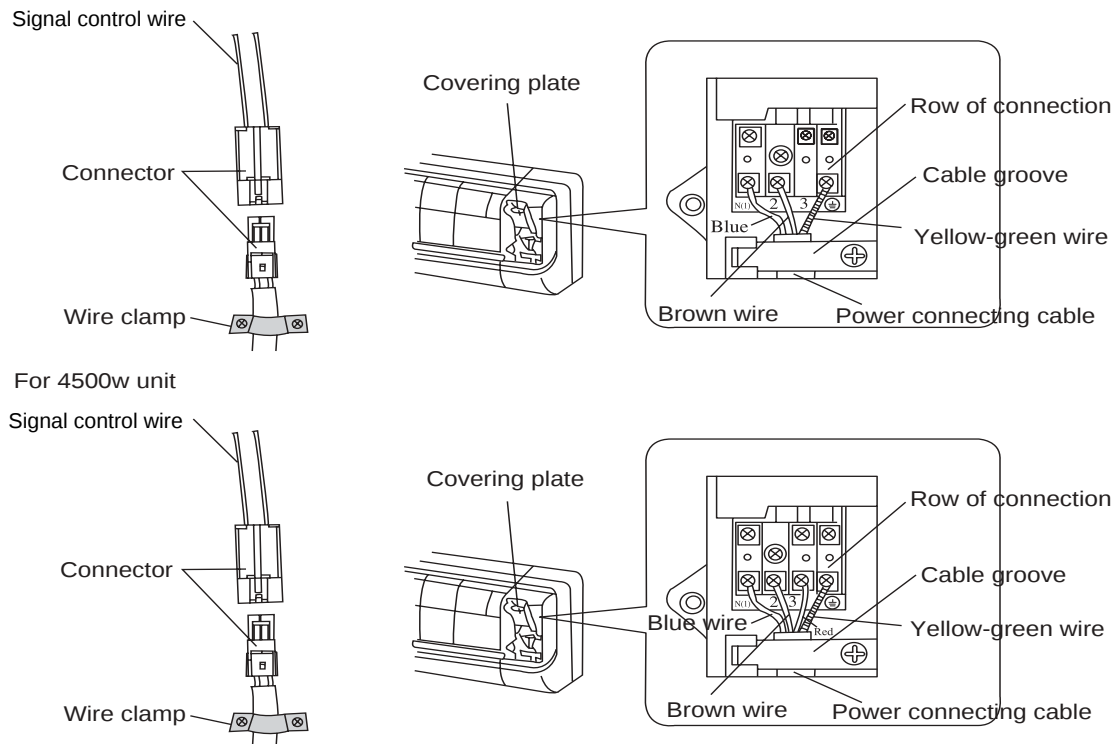

Fig.11-2
- As shown in Fig.11-2, connect the blue wire of power connect wire onto terminal "N", red wire onto terminal "2", brown onto terminal "3" and yellow-green one (earth wire) to terminal "⏏".